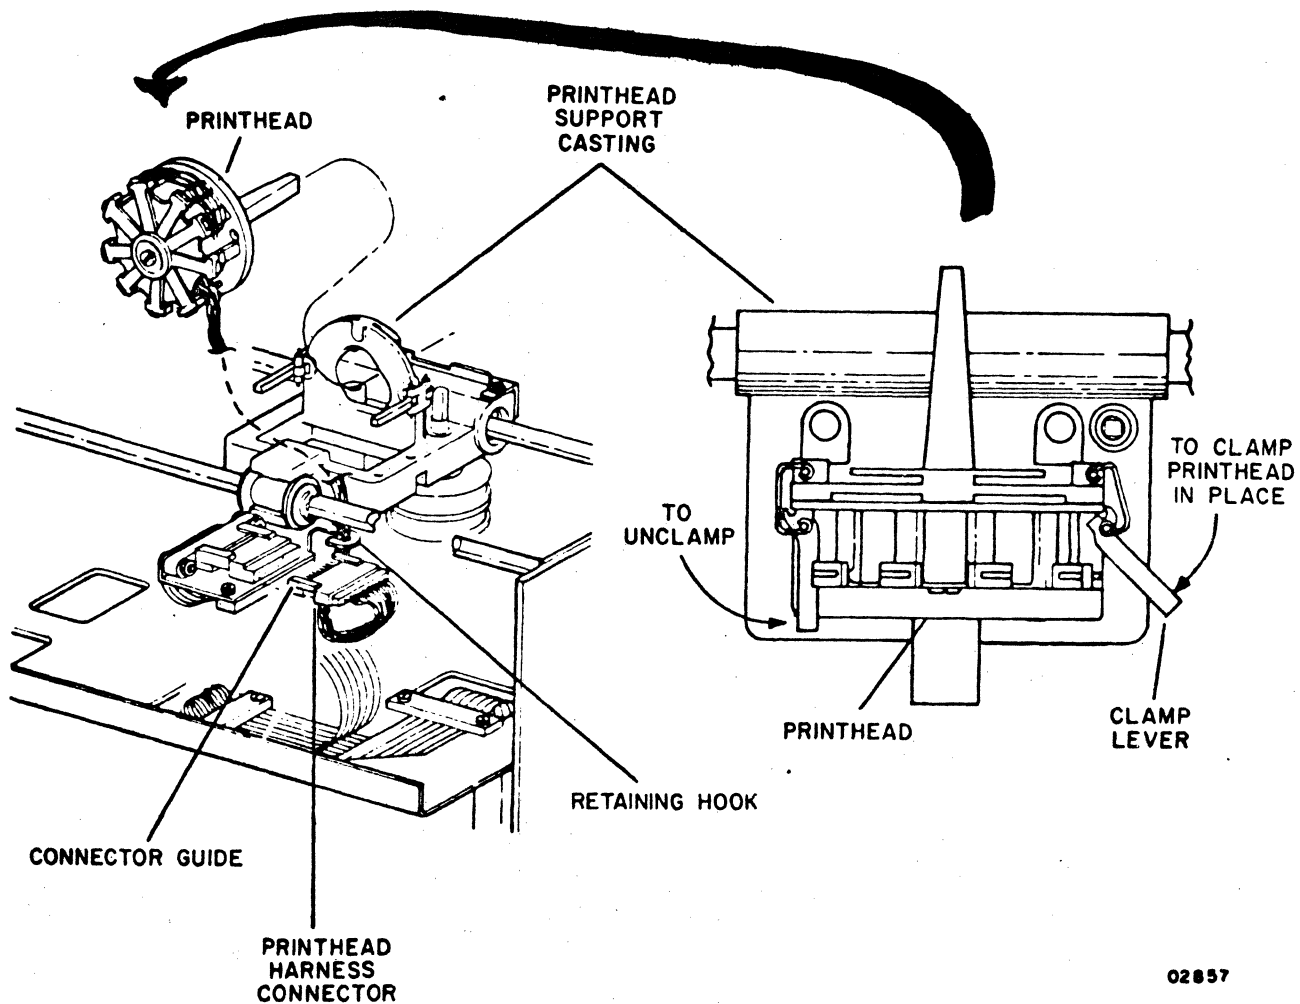

Figure 70-16. Printhead Replacement
- 4) Reach under printhead support casting and disconnect printhead harness from flat cable (figure 70-16).
- 10) Route printhead harness as shown in figure 70-16 and connect harness connector to flat cable connector. Ensure that printhead harness connector guides face up when making this connection; also ensure that printhead harness passes behind retaining hook.